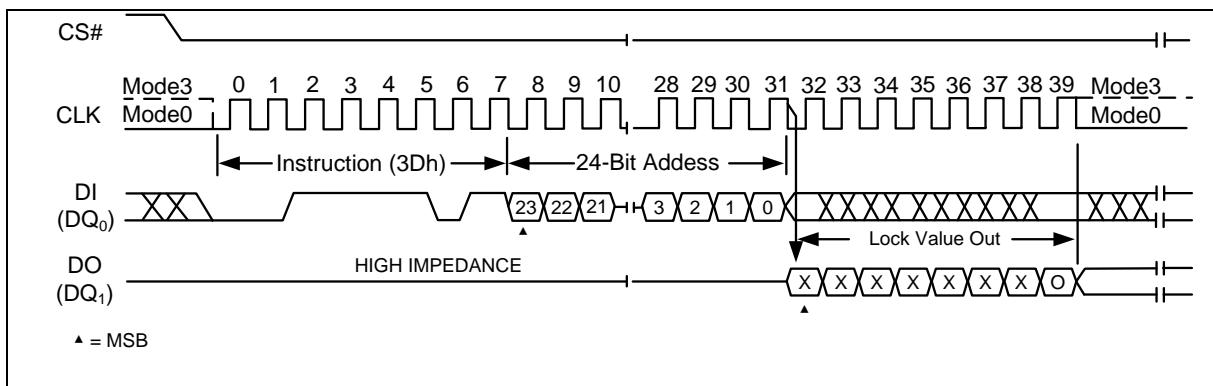

Figure 111 Read Block/Sector Lock Instruction (SPI Mode)
To read out the lock bit of a specific block or sector as illustrated in Figure 111, a Read Block/Sector Lock command must be issued by driving CS# low, shifting the instruction code “3Dh” into the Data Input (DI) pin on the rising edge of CLK, followed by a 32/24-bit address and then driving CS# high. The Block/Sector Lock bit value will be shifted out on the DO pin at the falling edge of CLK with most significant bit (MSB) as shown in. If the least significant bit (LSB) is 1, the corresponding block/sector is locked; if LSB=0, the corresponding block/sector is unlocked, Erase/Program operation can be performed.